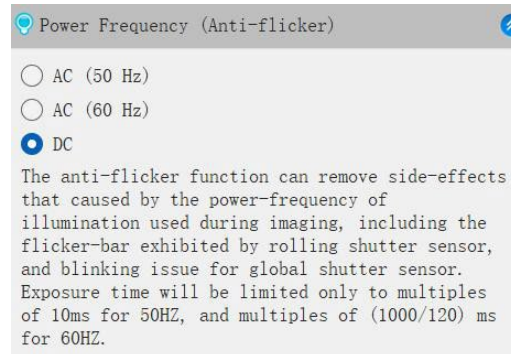

Figure 4-11 Example of ALTRAvIEW LITE Light Source Frequency (anti-Flicker) Control Panel
The ALTRAvIEW LITE light source frequency control panel is used to switch between AC (50Hz), AC (60Hz) and DC (DC) light source frequencies, as shown in Figure 4-11. It should be noted that the selection of light source frequency will affect the value of exposure time, and the relevant information is described in the text at the bottom of the panel.